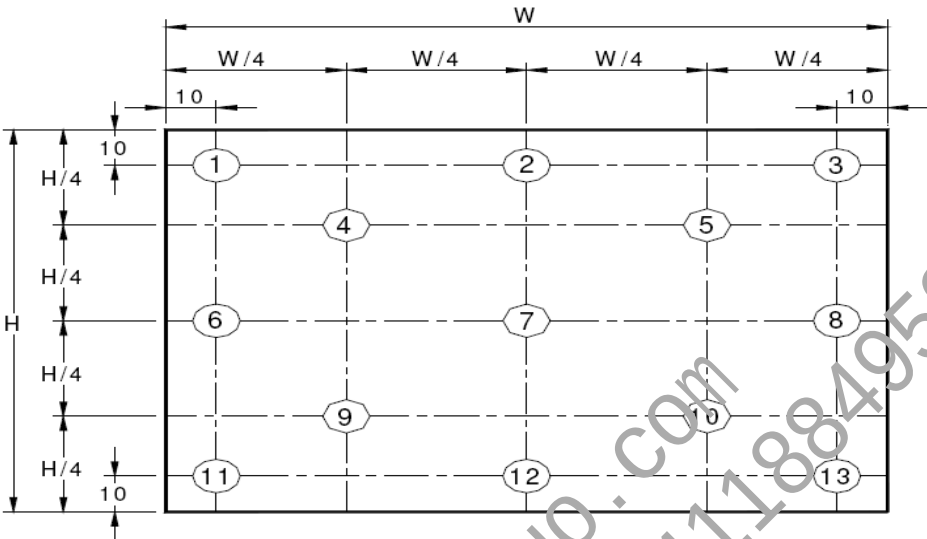

Figure 9. Uniformity Measurement Locations (13 points)
Notes : 1. Viewing angle is the angle at which the contrast ratio is greater than 10. The viewing angles are determined for the horizontal or 3, 9 o'clock direction and the vertical or 6, 12 o'clock direction with respect to the optical axis which is normal to the LCD surface (see Figure 7). 2. Contrast measurements shall be made at viewing angle of $\Theta = 0^\circ$ and at the center of the LCD surface. Luminance shall be measured with all pixels in the view field set first to white, then to the dark (black) state . (see Figure 7) Luminance Contrast Ratio (CR) is defined mathematically. CR = Luminance when displaying a white raster Luminance when displaying a black raster 3. Center Luminance of white is defined as luminance values of 5 point average across the LCD surface. Luminance shall be measured with all pixels in the view field set first to white. This measurement shall be taken at the locations shown in Figure 8 for a total of the measurements per display. 4. The White luminance uniformity on LCD surface is then expressed as : $\Delta Y = \text{Minimum Luminance of 5(or 9 or 13) points} / \text{Maximum Luminance of 5(or 9 or 13) points.}$(see Figure 8 and Figure 9). 5. The color chromaticity coordinates specified in Table 5 shall be calculated from the spectral data measured with all pixels first in red, green, blue and white. Measurements shall be made at the center of the panel. 6. The electro-optical response time measurements shall be made as Figure 10 by switching the “data” input signal ON and OFF. The times needed for the luminance to change from 10% to 90% is T_r, and 90% to 10% is T_r. 7. Cross-Talk of one area of the LCD surface by another shall be measured by comparing the luminance (YA) of a 25mm diameter area, with all display pixels set to a gray level, to the luminance (YB) of that same area when any adjacent area is driven dark. (See Figure 11).
The White luminance uniformity on LCD surface is then expressed as : $\Delta Y5$ = Minimum Luminance of five points / Maximum Luminance of five points (see Figure 8) , $\Delta Y13$ = Minimum Luminance of 13 points /Maximum Luminance of 13 points (see Figure 9).